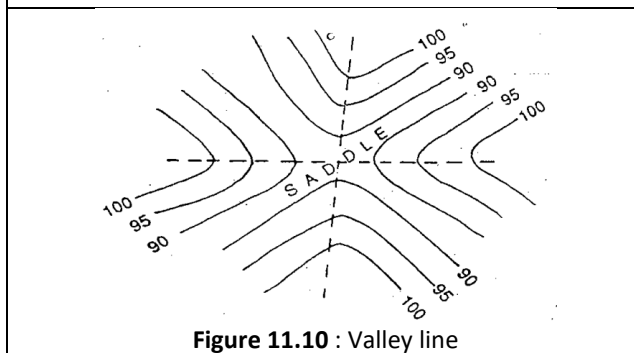

Figure 11.10 : Valley line
- Depressions between summits are called saddles (Fig. 11.10).